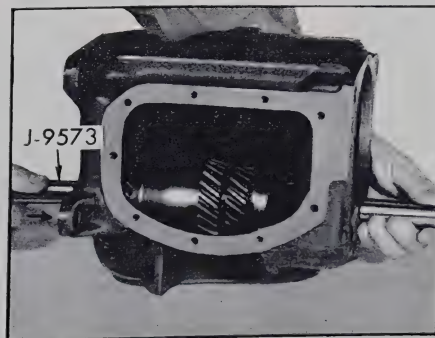

Figure 4-127—Removing Countershaft with J-9573
16. From the front of the case, remove countershaft (Figure 4-127) with J-9573; then remove the countergear and both tanged washers.